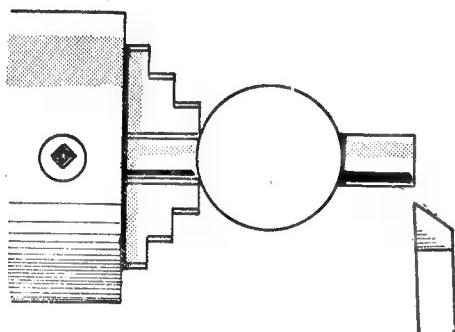

Fig. 11. Machining the body lugs
*Fig. 11. General arrangement, showing removable chuck cap hood and disposition of items composing the rear thrust-bearing and terminal securing collar. (Not to scale)*
shown in Fig. 11, and the casting is then reversed in the chuck so that the other lug can also be turned parallel. In this way, the two lugs can be turned to the finished size and length, and also made equal in diameter.